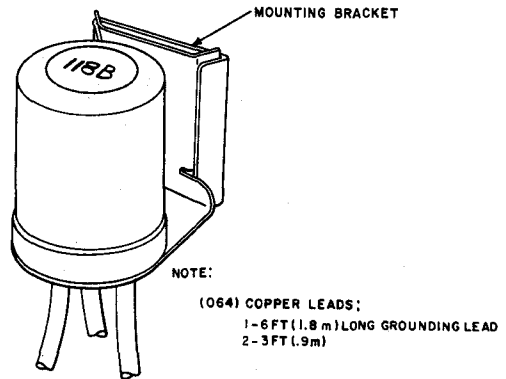
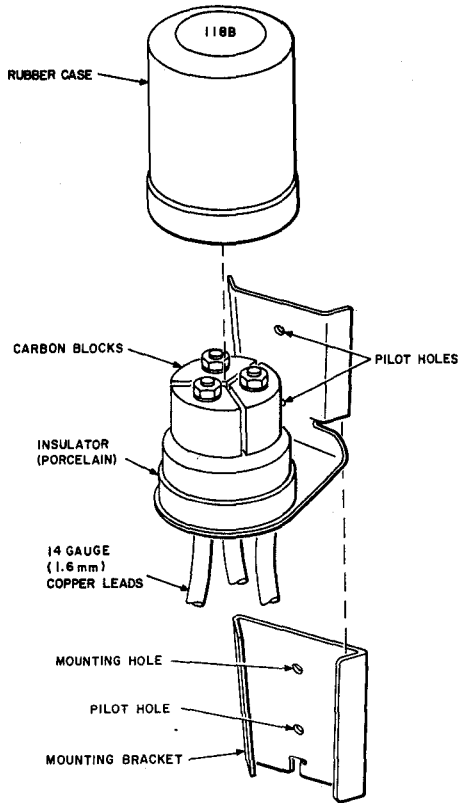

Fig. 99—118B Protector
Fig. 100—118B Protector, Disassembled
13.01 The 118B protector (Fig. 99), which supersedes the 99C protector, is designed to protect telephone circuits in the event of an accidental contact between power wires (of the MGN-type and carrying over 2000 volts) and telephone wires. The 118B protector consists of three carbon electrodes, having 0.020-inch gaps, mounted on a porcelain base and enclosed in a rubber case (Fig. 100). Three No. 14 gauge insulated wire leads extend from the bottom of the protector. One lead, 72-inches long, is connected to ground (of the MGN power) and two leads, 36-inches long, are connected to the telephone line wires.